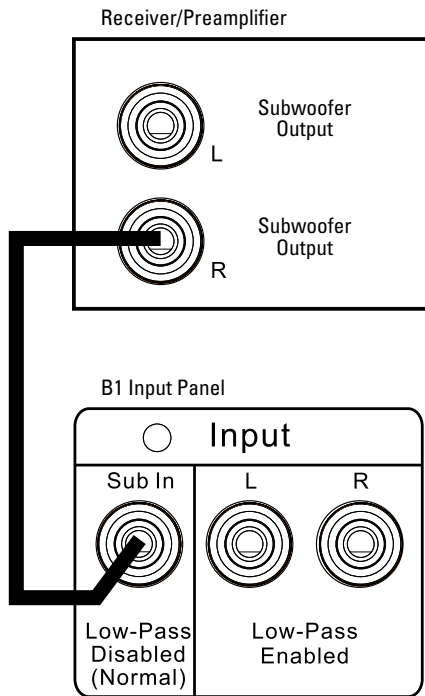

Figure 12: Typical connection with multiple subwoofer outputs
2. Connect the supplied RCA patch cable from one of the Subwoofer or LFE outputs on the processor/receiver to the Sub In connector on the B1 rear panel, as shown in Figure 12.